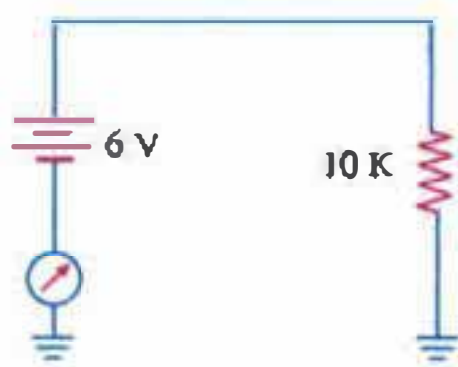

Fig. 1.17
- Find the reading of the milliammeter connected in the circuit of Fig. 1.17. [0.6 mA]